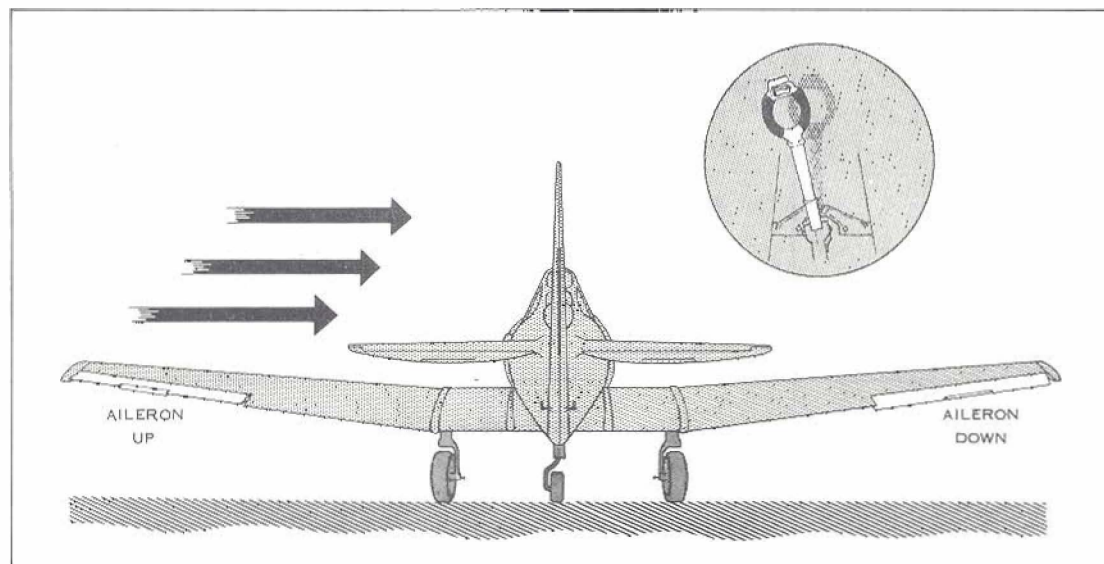

Figure 1: The Aileron Position for a Crosswind Take-off
(1) The technique for cross-wind take-offs is similar to that used during the normal take-off, except that aileron pressure is needed to keep the wings level. The aileron pressure has to be applied TOWARDS the direction of the wind as shown in Figure 1. In addition, the take-off run is slightly longer since the aircraft must be deliberately held down until 75K is attained.